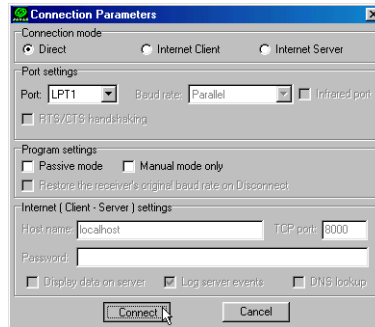

Figure 1-2. Parallel Port Connection Parameters
5. Press **Connect** (Figure 1-2).